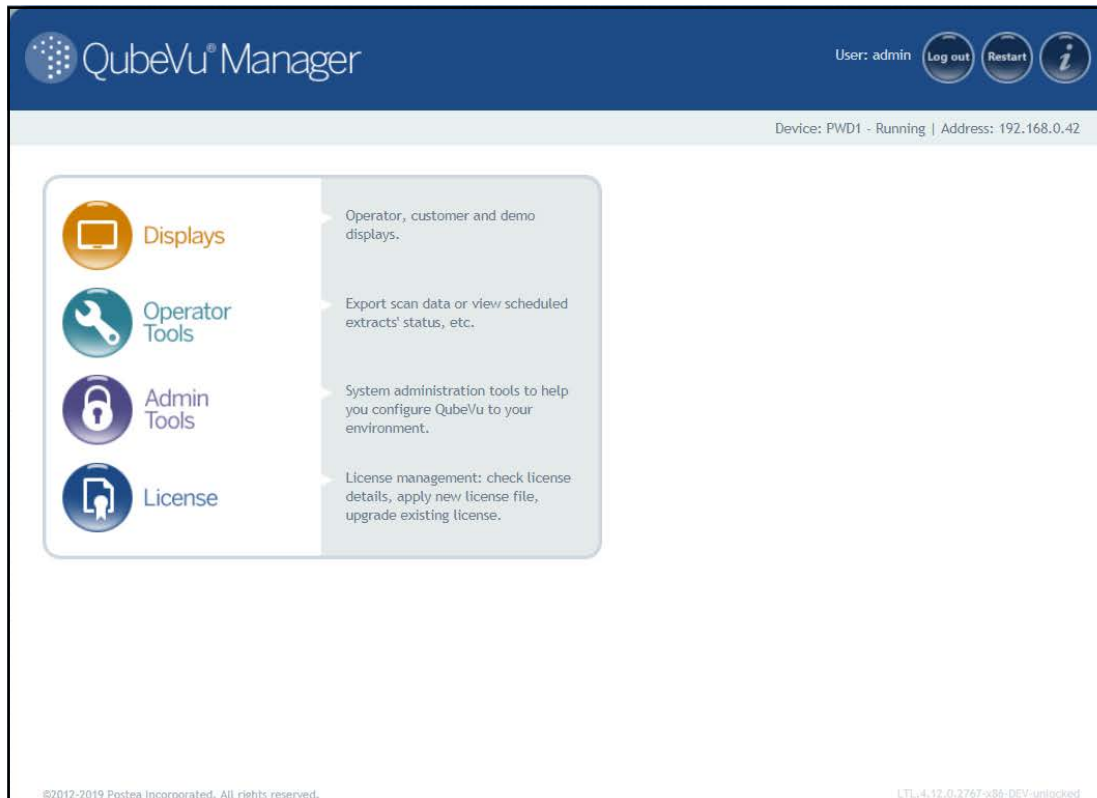

Figure 2-1. QubeVu Manager Home Page
1. Press  **Admin Tools** from the **QubeVu Manager** menu (Figure 2-1 on page 8) to enter the **Admin Tools** menu.